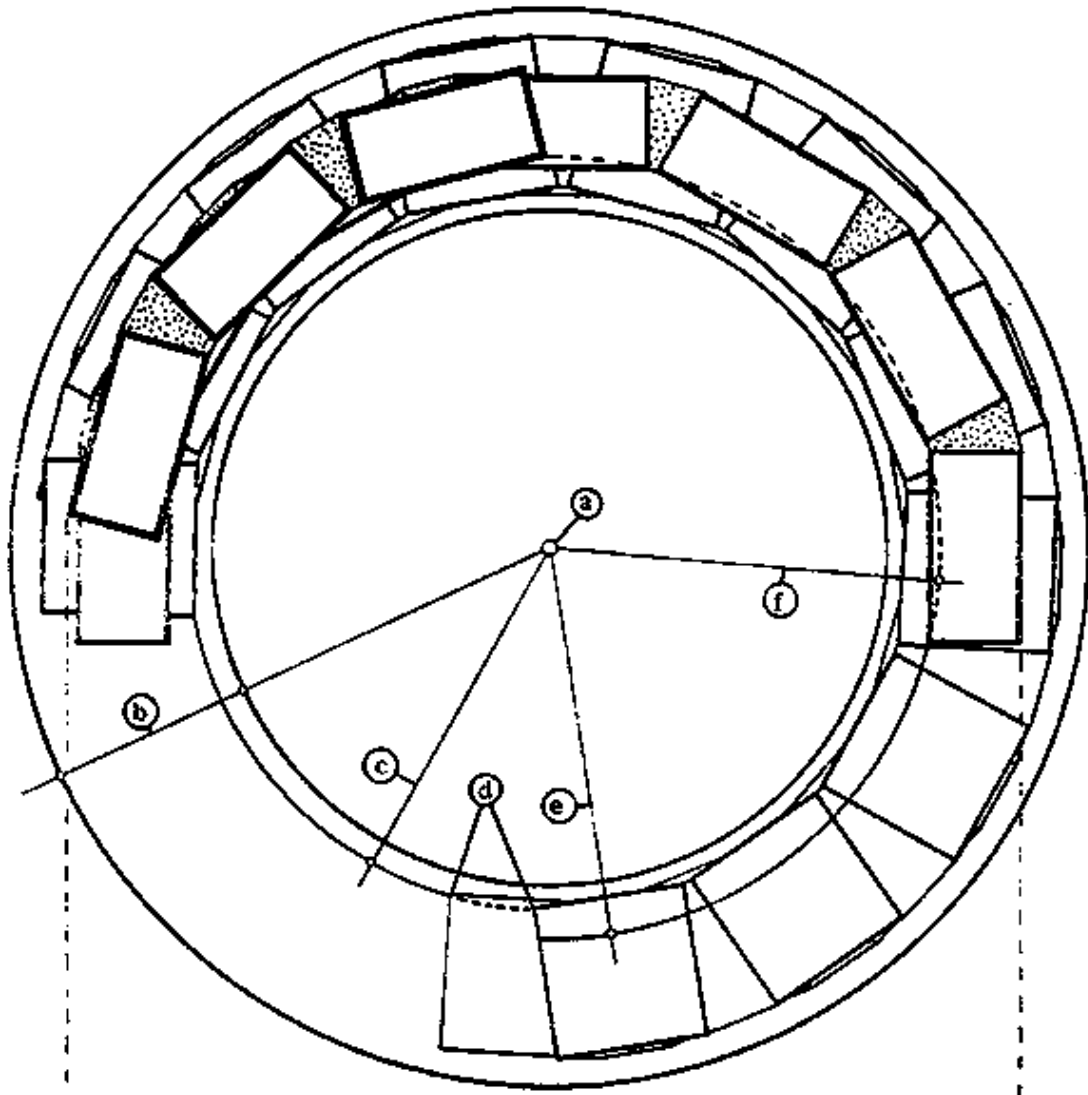

Fig. 1
- a. Determine the centre of the circle. Drive an iron rod into the ground at this point (Figs. 1 & 2, a). The rod should be a little higher than the top of the first course of the future rising wall.
- b. The inner and outer curves of the foundation are marked on the ground by fixing a mason line to the rod and describing circles with this at the desired radii (Fig. 1, b).
- c. The foundation is completed, then the inner curve of the footings is marked on the top of the foundation using the same method (Fig. 1, c).